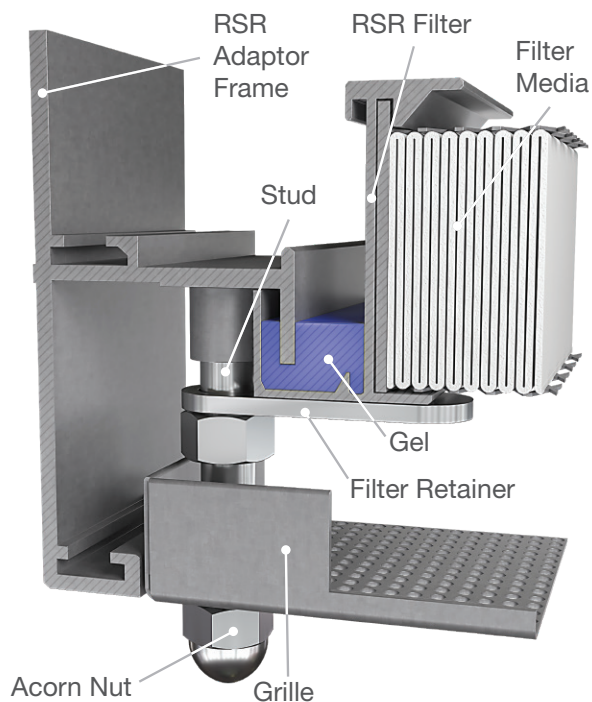

Fig. 7 Roomside Change Frame
The RSR unit is supplied with a standard removable grille made of 40% open area in Painted Steel, Aluminum, and Stainless Steel. Grille mounting is supplied as standard four (4) corner acorn nut design for 2x2 & 2x4 units and eight (8) acorn nuts for 3x4 & 4x4 units. The grille is fastened onto threaded studs using acorn nuts, one in each corner for 2x2 & 2x4 units and two along each side for 3x4 & 4x4 units (see Fig 7 below). The threaded studs protrude from the RSR Adaptor frame and through the grille to the room side. Acorn nuts and flat washers are installed on each stud to secure the grille in place.